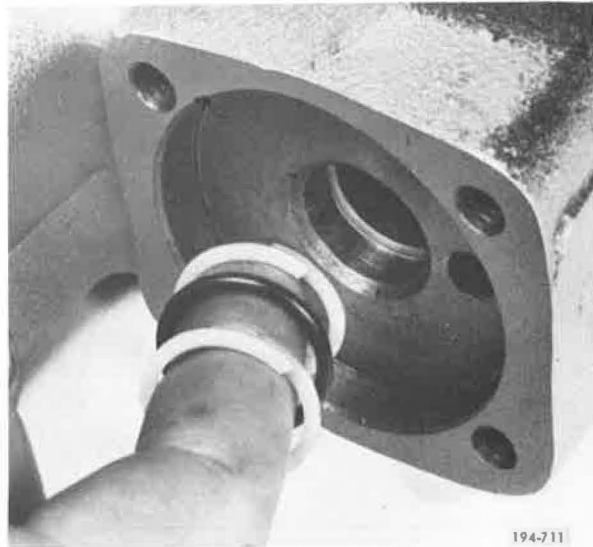

Figure 5-368. Removing O-ring and Teflon Rings
23. Remove o-ring and two Teflon rings from both the reverse opening and the Lo/Direct opening of the shift cover. See Figure 5-368.